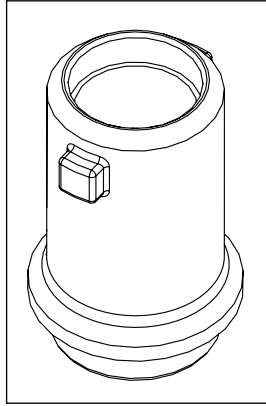

Fig. 11-8
- Removable Seat See Fig. 11-8